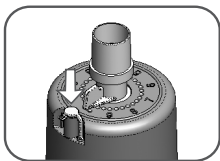

fig. 6
- A water level adjustment port (fig. 6) is provided to adjust water level without interruption of therapy. To use, remove the luer cap and connect a syringe to the port, adding or removing water as required.